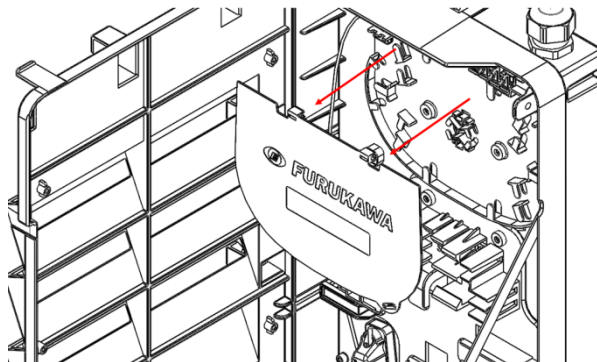

Figure 17
- 1.5.3 Remove the splice tray cover (Fig. 17);